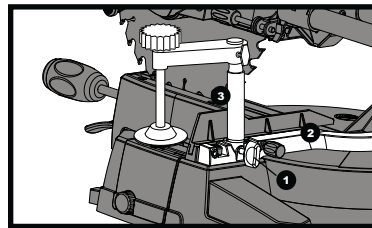

Fig 7
- 1) Loosen the lock knob (1) from the rear side of the saw base (2). (See fig. 7)
- 3) Tighten the lock knob (1). (See fig. 7)